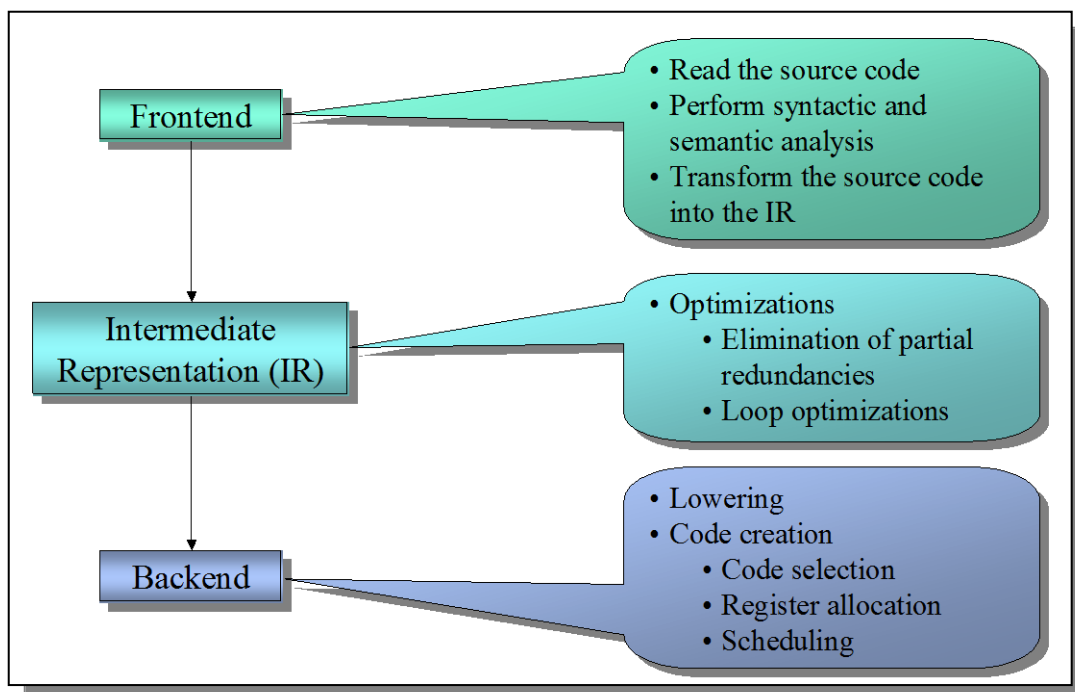

Figure 8-1: A Typical Buildup for a Retargetable Compiler
A typical retargetable compiler is separated into **three** phases, as shown in Figure 8-1. The first stage is architecture independent, but source language dependent. This phase reads the source code, inspects it for syntactic and semantic correctness, and transforms it into the second phase, the intermediate representation (IR). This IR is as well source language independent as architecture independent and it is used to perform the optimizations. This implies, that the optimizations can be easily reused, if the source language or the architecture changes. The third phase is source language independent, but highly architecture dependent. This backend first transforms the IR into a low-level form. That means, that high-level structures, like polymorphic procedure calls are replaced by jump tables or that complex data structures are disassembled into elementary memory accesses. Afterwards the final assembly code has to be created. This part is separated into **three** steps. In the first step, code has to be selected out of the lowered IR. This code selection is not unique, as there are always different possibilities to represent some statements in assembly language. This code selection works